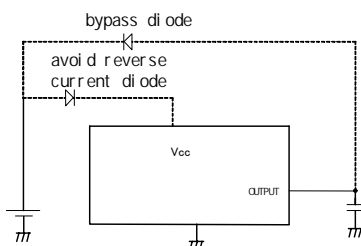

Figure 30. Example of insert diode
(9) In the application, when the mode where the VIN and each pin electrical potential becomes reversed exists, there is a possibility that the internal circuit will become damaged. For example, during cases wherein the condition when charge was given in the external capacitor, and the VIN was shorted to GND, it is recommended to insert the bypass diode to the diode of the back current prevention in the VIN series or the middle of each Pin-VIN (fig.30).
(10) About IC Pin Input